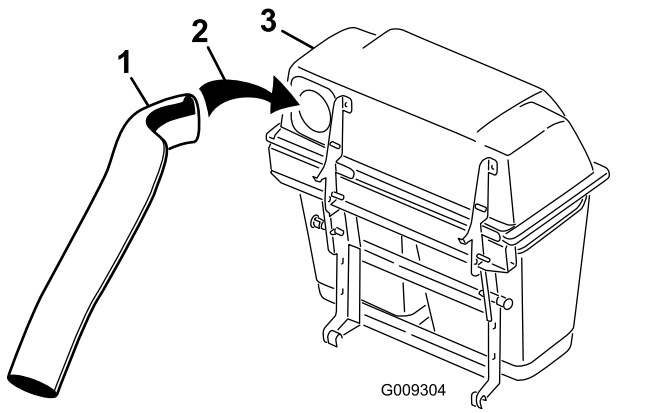
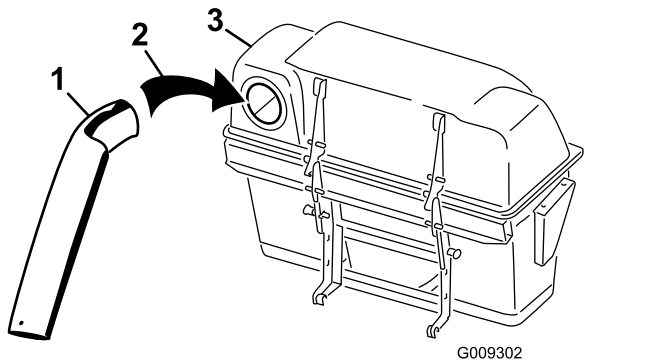

Figure 21
Figure 22
5. Install the upper tube into the bagger opening and pull it back out so that the rubber seal is protruding out (Figure 21 or Figure 22).